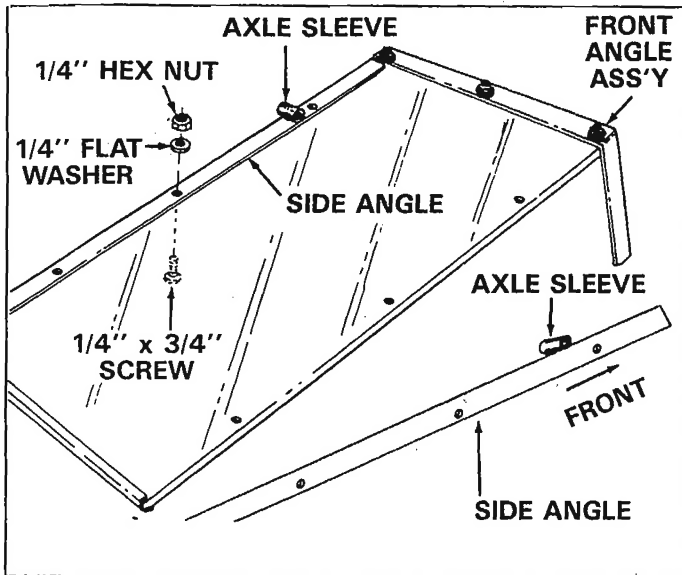

FIGURE 3
3. Turn front angle assembly and bottom panel upside down as shown in figure 3.
4. Lay the two side angles on bottom panel so that the axle sleeves are towards the front angle assembly. See figure 3.
5. Secure the two side angle assemblies to the bottom panel with six  $1/4'' \times 3/4''$  truss head screws, flatwashers and hex nuts. Only make finger tight, until all six screws are in place, then tighten securely. See figure 3.